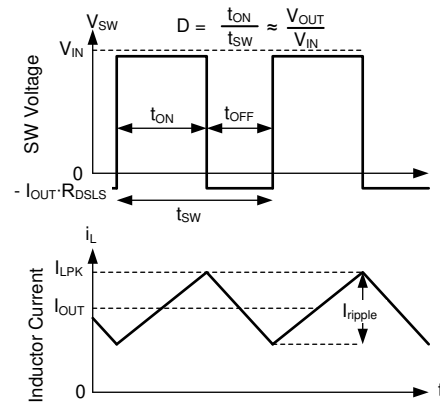

图 8-15. SW Voltage and Inductor Current Waveforms in Continuous Conduction Mode (CCM)
The following operating description of the LM61440 refers to セクション 8.2 and to the waveforms in 図 8-15. In CCM, the LM61440 supplies a regulated output voltage by turning on the internal high-side (HS) and low-side (LS) NMOS switches with varying duty cycle (D). During the HS switch on-time, the SW pin voltage, V_{SW} , swings up to approximately V_{IN} , and the inductor current, i_L , increases with a linear slope. The HS switch is turned off by the control logic. During the HS switch off-time, t_{OFF} , the LS switch is turned on. Inductor current discharges through the LS switch, which forces the V_{SW} to swing below ground by the voltage drop across the LS switch. The converter loop adjusts the duty cycle to maintain a constant output voltage. D is defined by the on-time of the HS switch over the switching period: